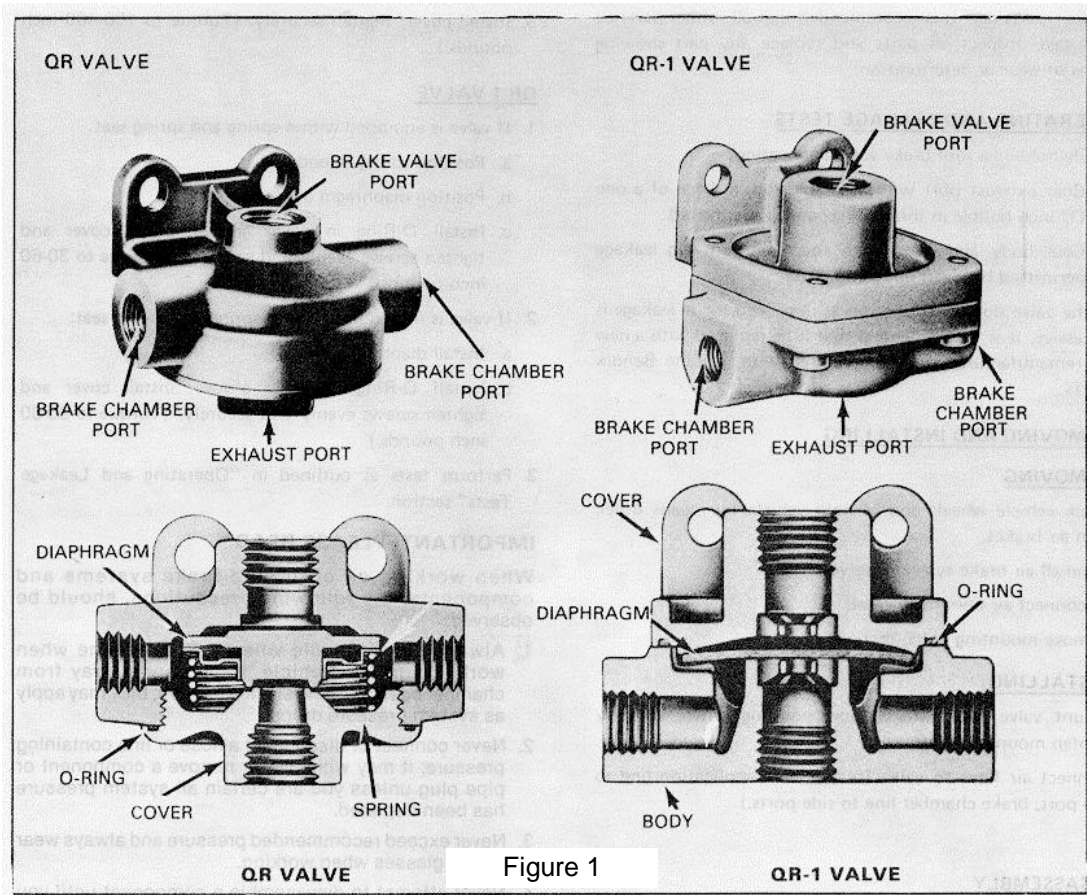

Figure 1
Reservoirs are also supplied in double and triple compartment configuration and in some cases include an integral check valve between compartments in a double compartment reservoir. Figure 1 illustrates a two compartment reservoir. Two styles of check valves are shown in Figures 2 and 3. Figure 3 is the current design.
3. Completely drain compartment # 1 (see Figure 1).
Reference Figure 1, two styles of Quick Release Valves are available and are functionally the same; the QR valve, which is of older design and utilizes a spring and spring seat, and the QR-1 valve, which in its standard configuration does not employ a spring or spring seat.